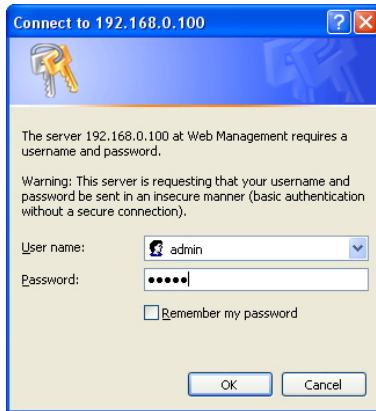

Figure 6-2: Login Screen
2. When the following dialog box appears, please enter the default user name and password "**admin**" (or the password you have changed via console). The login screen in Figure 6-2 appears.